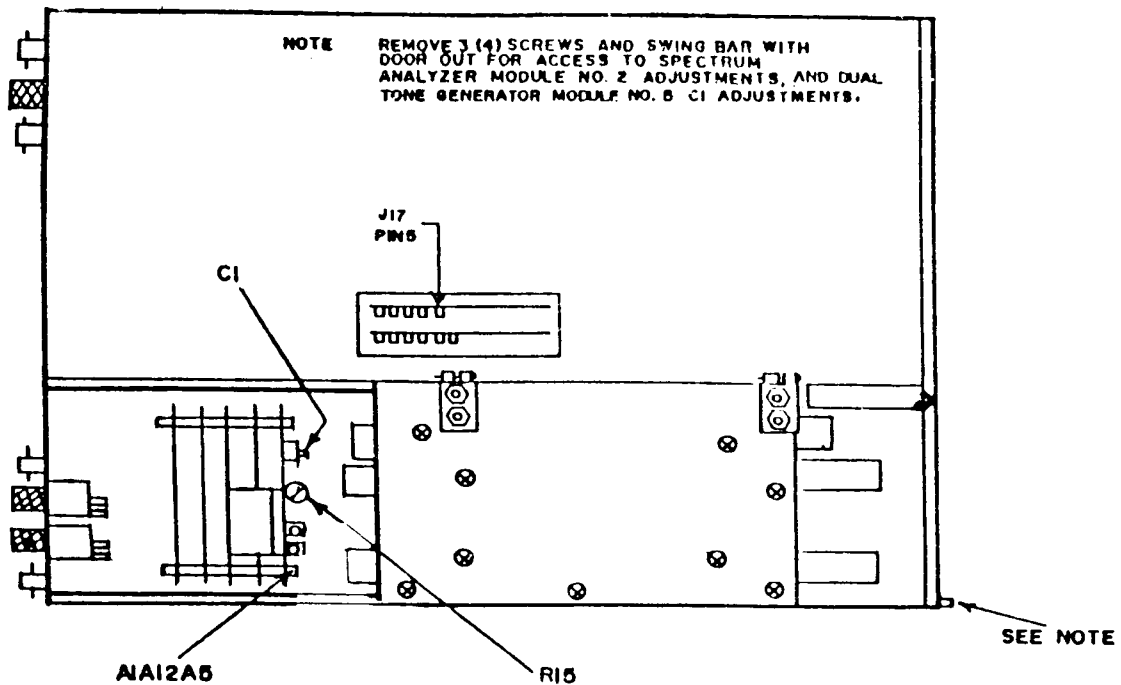

Figure 2. Test instrument - bottom view.
(1) Adjust A1A12A5C1 (fig. 2) until frequency counter indicates 1000 Hz \pm 0.1 Hz (R).
(2) Adjust A1A2A5R15 (fig. 2) until frequency counter indicates 1000 Hz (R).